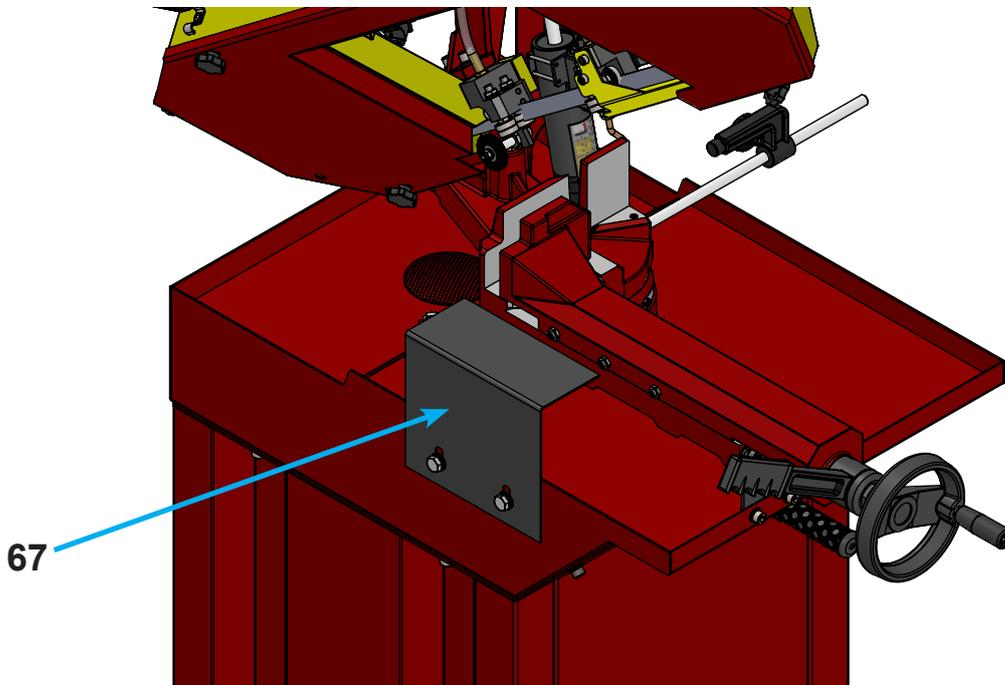

FIGURE 11.7 - SUPPORT POSITION
To better support the material being cut, a removable Side Support (67) can be attached. This helps prevent accidents with the material falling when the Vise (17) is opened (figure 11.7).